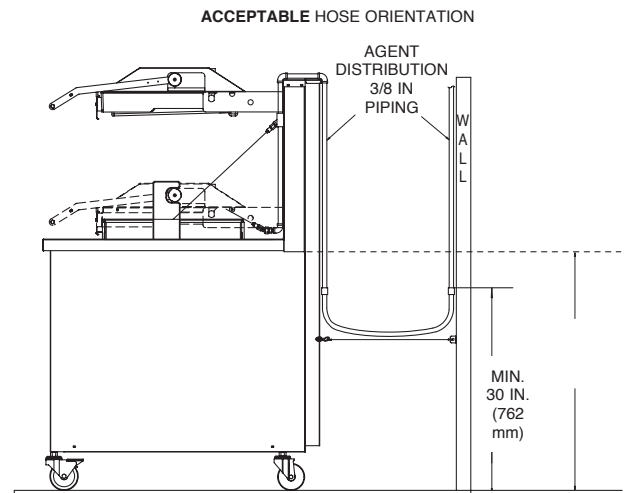

FIGURE 4-31
3. 3/8 in. schedule 40 pipe will need to be run from the hose connection to the distribution nozzle(s) installed/affixed to the appliance. Pipe must be installed and adequately secured at a height at or below the cooking surface of the appliance. See Figure 4-31.
3. The Agent Distribution Hose should always be in a vertical natural loop, never having any bends less than a 3 in. (77 mm) radius (6 in. (152 mm) diameter), hose twists, or sharp bends. See Figure 4-31. If any of these conditions exist, the hose and/or hose connections will require installation modifications.
3. Check the hose and hose fittings and verify that the hose remains in a vertical natural loop with no noticeable fatigue at hose end couplings, no hose twists, no hose kinking or sharp bends. See Figure 4-31.